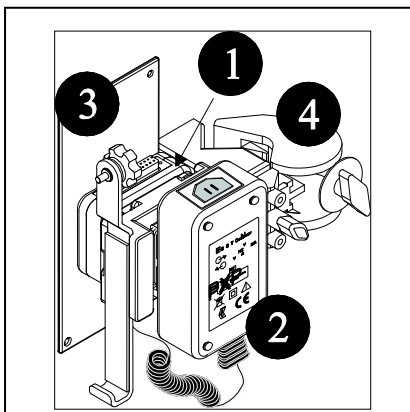

Figure 43. The MSM Interface Kit
1. Please note the parts of the MSM Interface Kit, which arrives preassembled, as seen in Figure 43. The MSM Interface Kit on page 64.
- Communication Adapter (1)
- AC Adapter (2)
- Bridge Mounting Bracket (3)
- Pole Mounting Clamp (4)